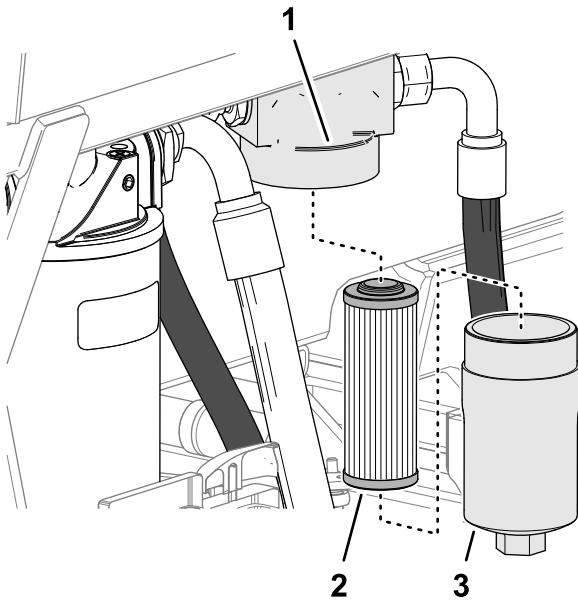

Figure 86
- At the left side of the machine, clean the area around the filter head and place a drain pan under the filter housing (Figure 86).
- Remove the filter housing from the filter head and remove the element (Figure 86).
- Install a new filter element onto the filter head (Figure 86).